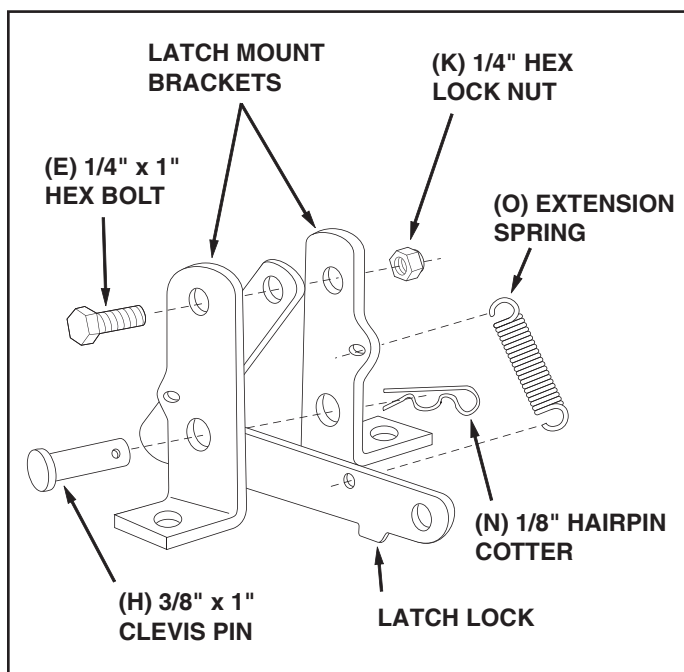

FIGURE 1
3. Assemble the latch lock between the latch mount brackets using a 1/4" x 1" hex bolt (E) and a 1/4" hex lock nut (K). Tighten so that the latch lock can still pivot. Attach the extension spring (O) to the latch lock and the latch mount bracket as shown in figure 1.
4. Insert the 3/8" x 1" clevis pin (H) through the holes in the latch mount brackets and secure with a 1/8" hairpin cotter (N). See figure 1.
IMPORTANT: Leave the latch lock clevis pin in place at all times while using the cart as a push cart. The clevis pin is shown in figure 1 on page 5.